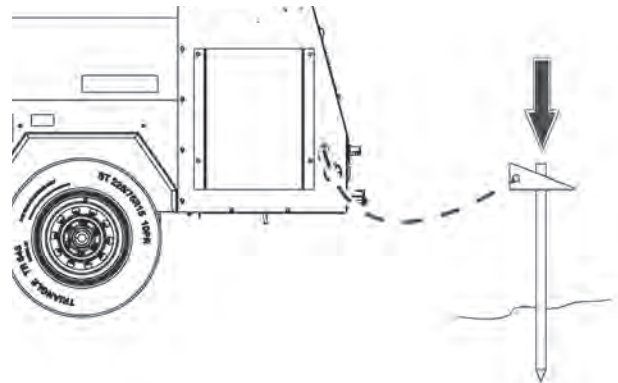

Figure 4.1
3. Find the ground lug at the left rear of the trailer chassis. See Figure 4.1. Locate a point on the ground not more than 5 feet (1.5 m) from the ground lug. Drive the ground rod into the earth at this point.